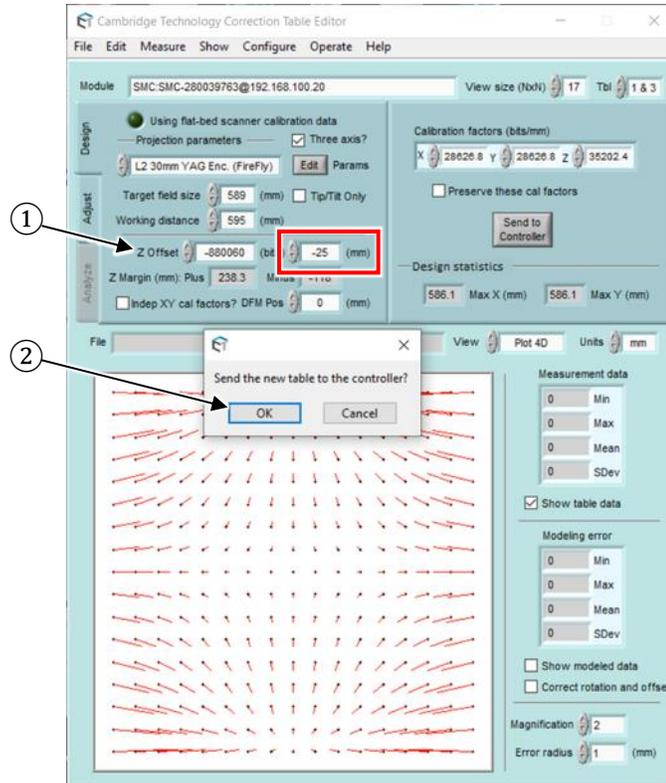

Figure 25: Adjusting the Z Offset
If required, the focus can be adjusted by clicking **Adjust focal plane** and then entering a *Z Offset* value into the *Correction Table* as shown in Figure 25 on page 69.
- Z Offset* correction is the field that is marked by a red box in Figure 25 on page 69. Enter the offset value in millimeters there.